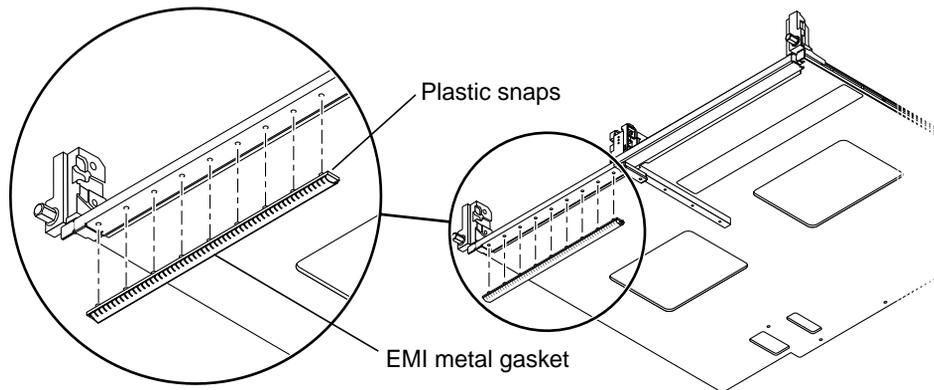

FIGURE 4 Installing the EMI Metal Gasket
**5. Secure the card cage filler panel assembly with the nine (9) M3x8 flathead screws to the new package carrier plate.**
**6. Assemble the T rail guide and secure with the two (2) M3x35 flathead screws.**
9. Install the new gasket by aligning the nine (9) plastic snaps with the row of nine (9) holes at the front edge of the carrier plate, as shown in Figure 4. Using your thumb and forefinger, apply pressure to the snaps until each snap is fully seated into the nine (9) holes and no visible bumps or ridges are showing.